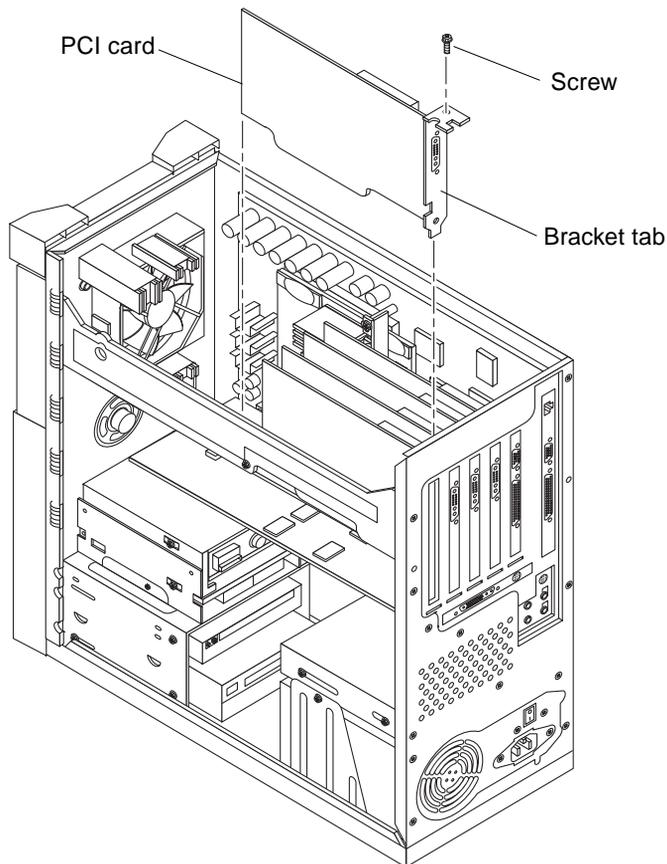

FIGURE 10-7 Removing and Replacing the PCI Card (Ultra 10)
8. Remove the PCI card from the Ultra 10 as follows (FIGURE 10-7):
4. Replace the PCI card into the Ultra 10, proceed as follows (FIGURE 10-7):